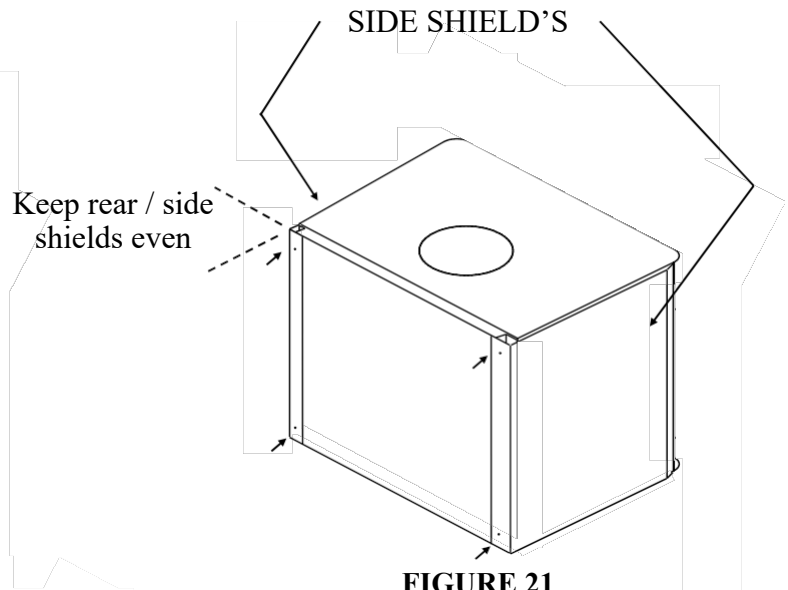

FIGURE 21
2. Insert front end of side shield behind front of stove. Align top of side shield with top of back shield. Mark holes on back shield through holes in back of side shield. Using four self tapping screws, drill four holes in the locations marked. Tighten bottom screws and leave top screws loose for step 3. Use same step to install side shield on opposite side of stove. (See figure 21).